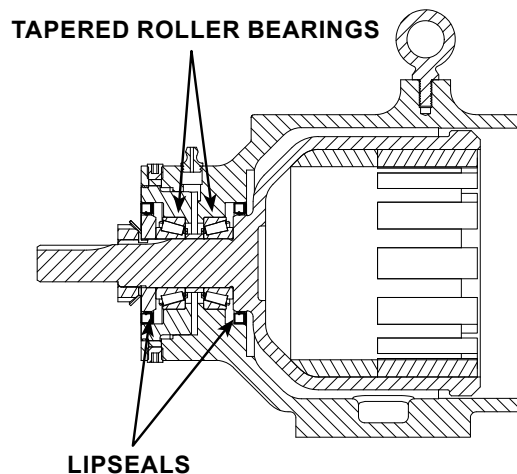

FIGURE 9
2. Press the inner lipseal into the bracket and the outer lipseal into the end cap and then lubricate the lipseals, see **Figure 9** for lipseal and bearing orientation.